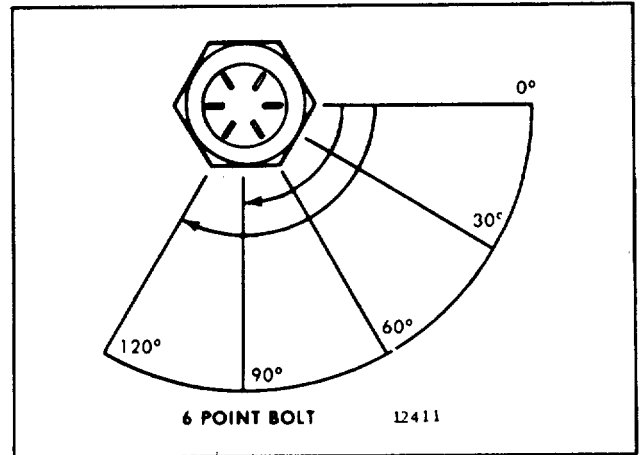

Fig. 4. Torque - Turn Limits
10. Turn the bolts an additional 90°-120° (Fig. 4) to obtain the required clamping.